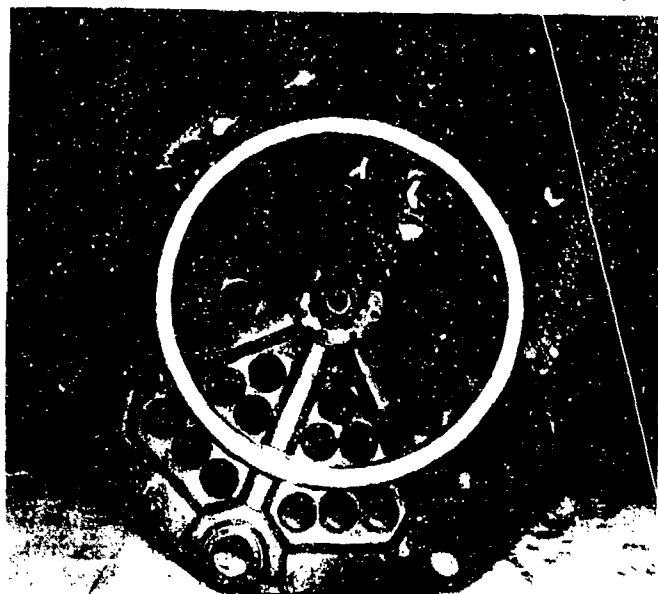

Figure 4-5. Firing platform.
a. *Description.* The front end of the carriage is supported by an aluminum platform (fig 4-5) that is located between the carriage wheels and must be staked to the ground prior to firing operations for stability in the firing position. The carriage is supported on the firing platform by a pivot and socket and four stabilizing devices that ride on the firing platform stiffening ring to permit a full 6,400 mil traverse. The firing platform is an